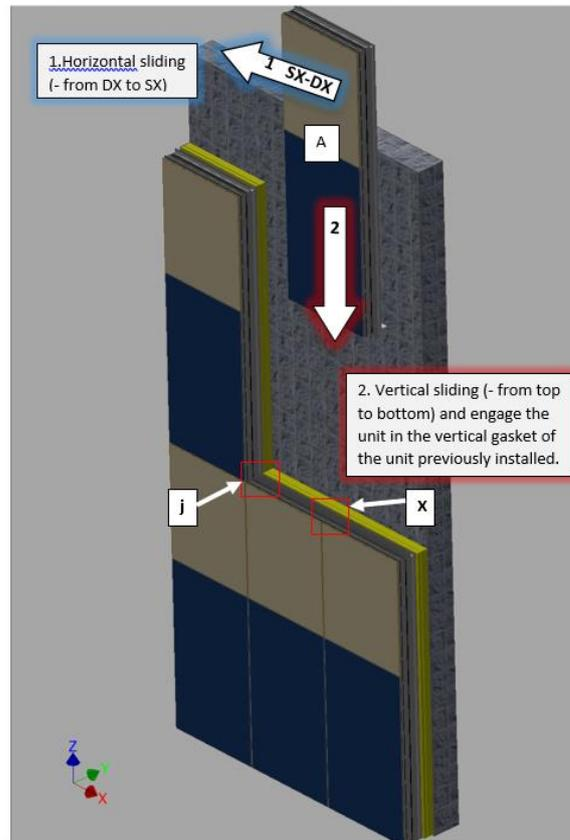

Figure 6 Sequence of the movements for the installation of the unit of the same level
- 3.1. Install the unit following the movements 1 and 2 indicated in the figure 6.